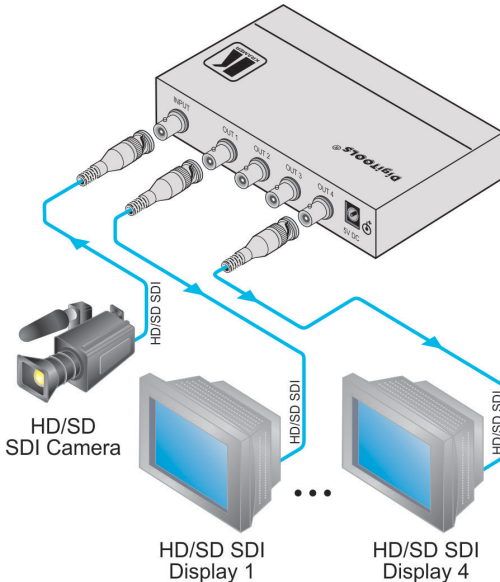

Figure 2: Connecting to the VM-4HDxI
To connect the **VM-4HDxI** as illustrated in the example in Figure 2, do the following:
3. Connect the 5V DC power adapter to the power socket and connect the adapter to the mains electricity (not shown in Figure 2).